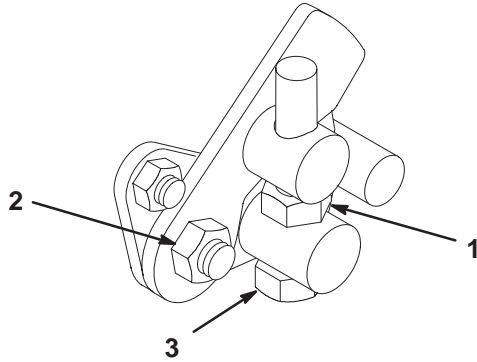

Figure 52
1. Loosen the jam nut on the trunion capscrew (Fig. 52).
4. Tighten the jam nut on the trunion capscrew and the nut on the pedal pivot to lock the adjustment (Fig. 52). Check the adjustment and adjust as required.